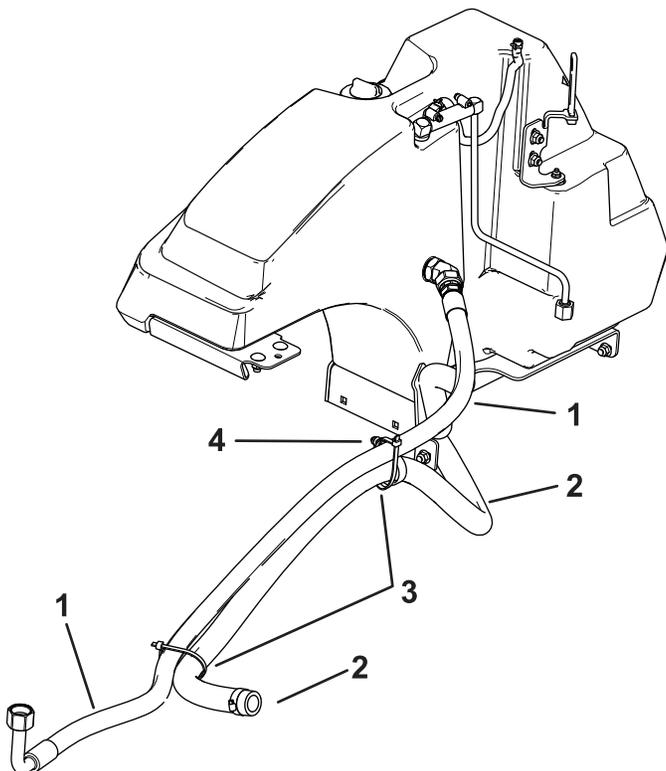

Figure 14
Use Figure 14 for identifying the hoses and the placement of the cable ties.
11. Install the cable ties at the positions shown in Figure 14.